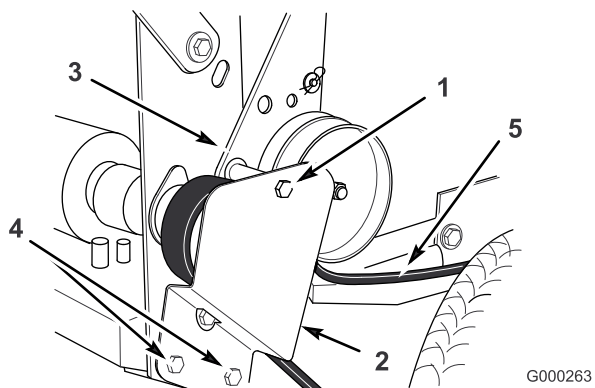

Figure 40
1. Remove the top capscrew securing idler support and idler bracket to rear frame (Figure 40).
2. Loosen bottom two mounting screws enough to allow belt to pass between drive pulley and idler support (Figure 40).
5. Install the top capscrew securing the idler support and idler bracket to the rear frame (Figure 40).
6. Tighten the bottom two mounting screws enough to allow the belt to pass between the drive pulley and idler support (Figure 40).